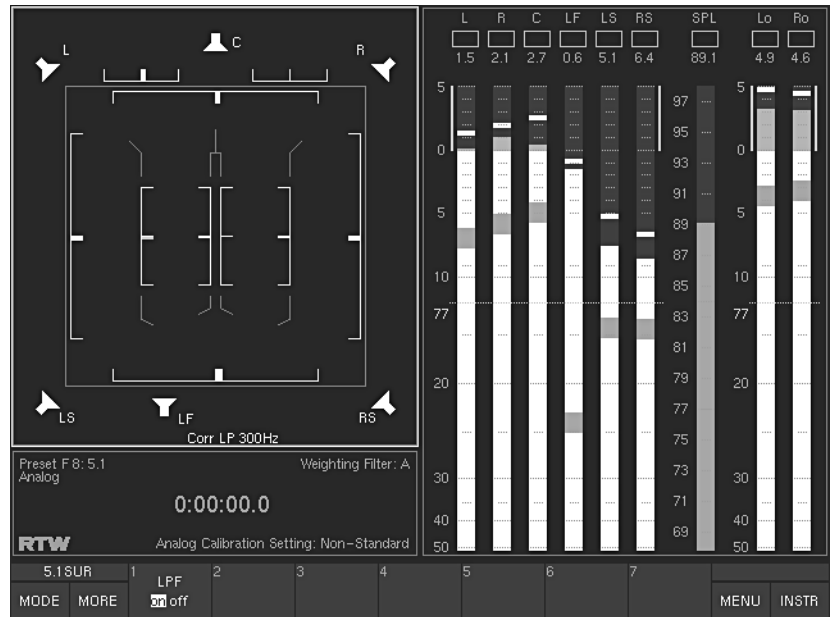

Fig. 5-18: The screen display with CORR instrument in 5.1 surround mode selected
In 7.1 surround mode the levels of the additional front hannels are mixed with those of the front center channel. There is only one common front center indicator. Example see Fig. 5-18 above.
(Button/key 1, see Fig. 5-18)